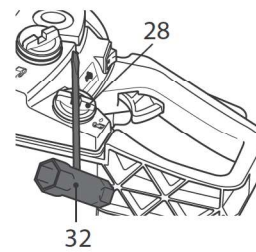

Fig. 17
- > Wipe up spilled oil with a soft cloth and refit the chain oil tank cap (28). Use the combination spanner (32) to tighten the cap (28) properly (Fig. 17).